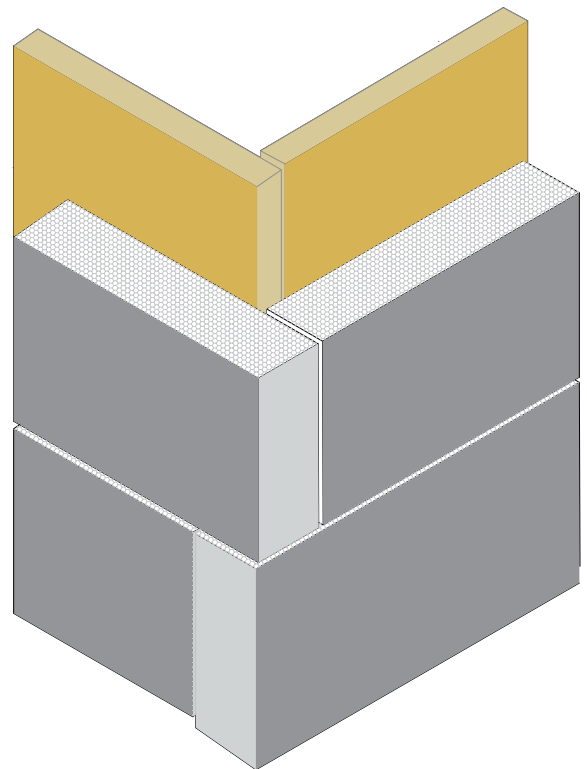

Fig. 8 Xi-WaterShield and Adhesive not shown for the clarity of the board placement.
4. Interlock inside and outside corners of insulation boards. (*Fig 8 - Xi-WaterShield and Adhesive not shown for the clarity of the board placement*)